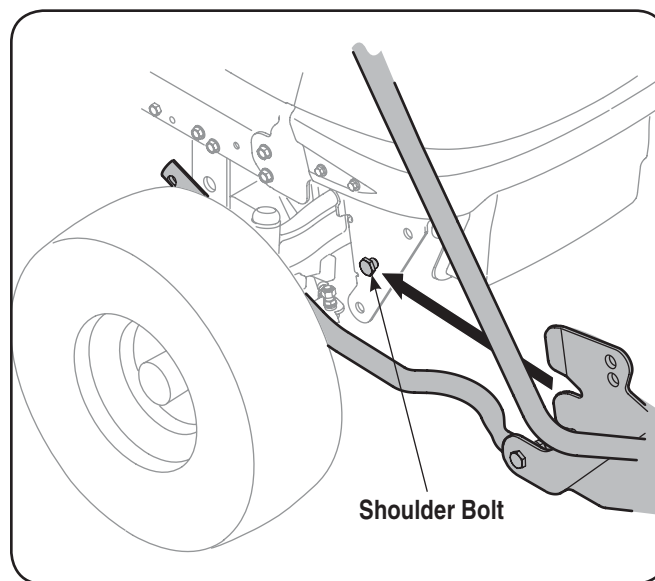

Figure 3-14
1. Install a shoulder bolt on each side of the tractor and secure with a lock nut. See Fig. 3-14.
4. With the help of an assistant, lift up the auger housing and move it so that it rests over the shoulder bolts installed in Step 1 of this section. See Fig. 3-14.